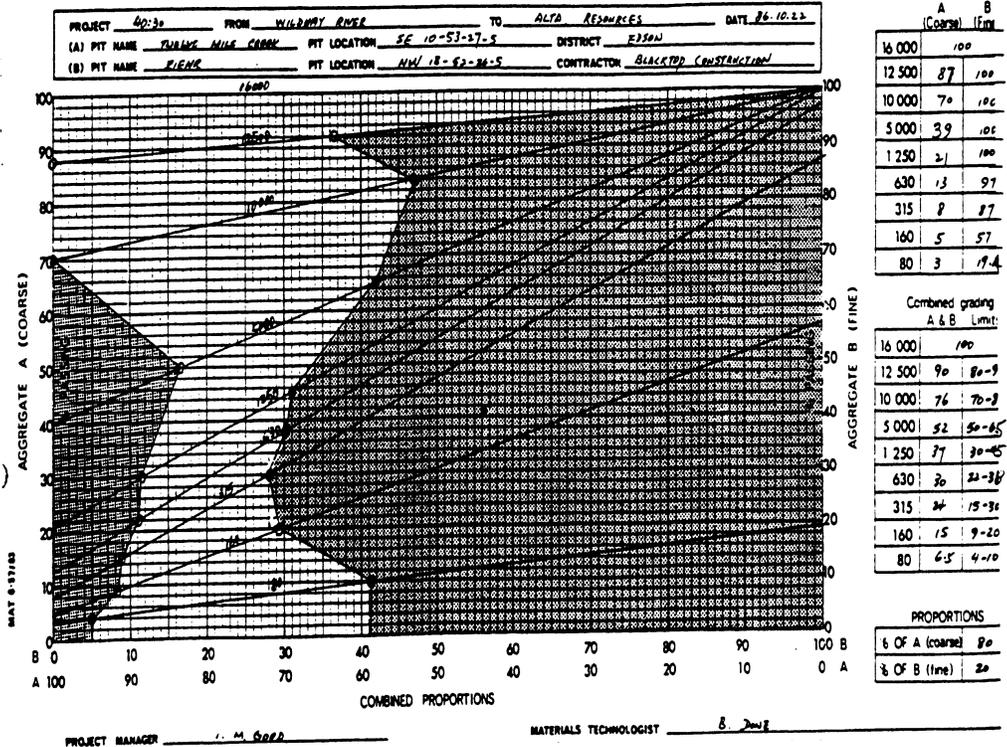

FIGURE 5
1. Determine the average gradation of the sand to be used. Record the percent passing the corresponding sieve as Average Grading of Split Piles, column "B" (Fine), on a second Aggregate Proportioning Chart as shown in Figure 5.